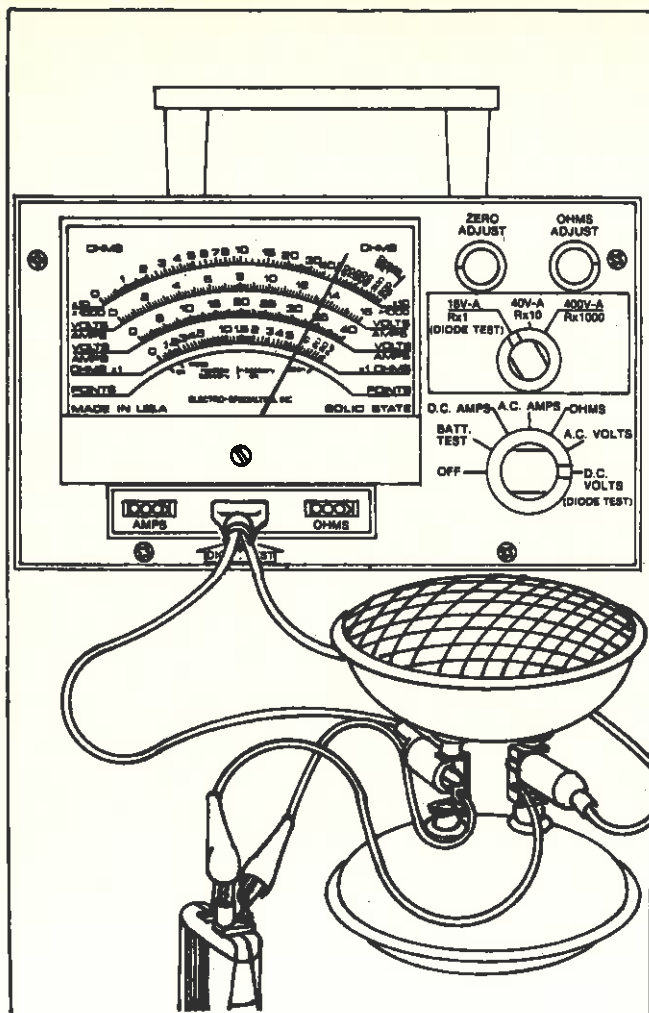

Fig. 51 — Battery Charger Tester
- B. Battery discharged. See Fig. 51.
Solder the two headlights together with wires, and connect the voltmeter as shown in the accompanying illustration, Fig. 51.